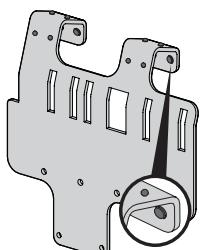

Figure 3
- Install 12 rubber pads (735-05938) into adapter bracket (789-02518) using the mounting holes shown in Figure 3.